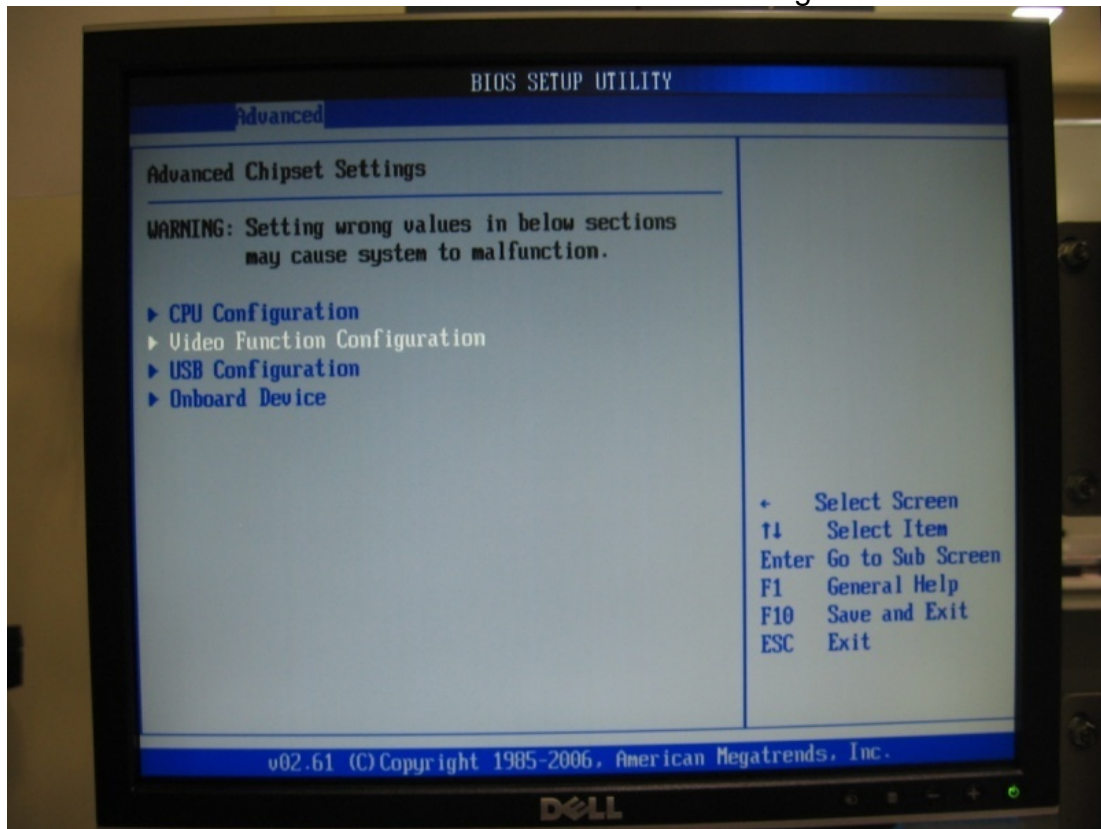
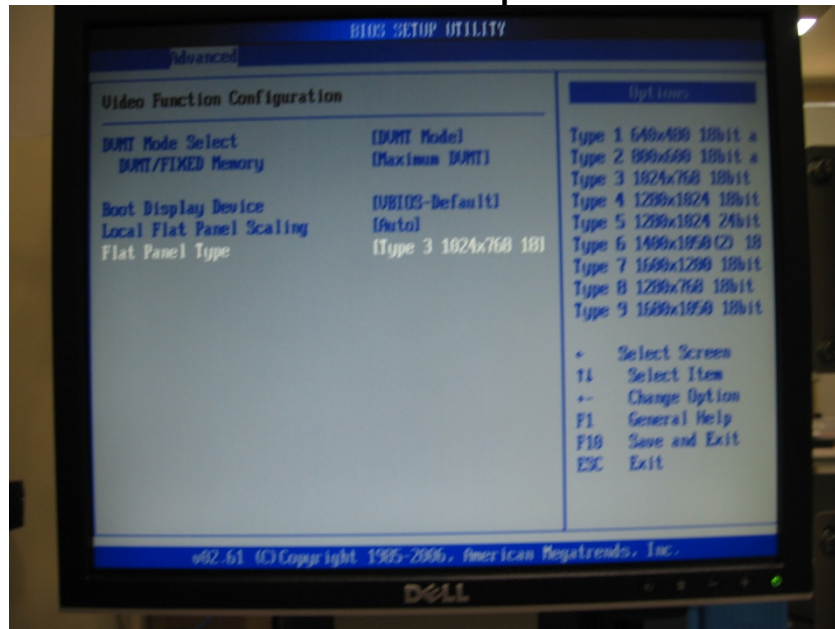

Figure 7-23 Video Function Configuration screen.
Figure 7-24 Display Configuration Screen.
13. On the **Advanced** options screen, scroll down and select **Video Function Configuration** screen. Press **Enter**. (Figure 7-23). Figures 7-24, 7-25, show the various default settings. Leave on Default then press **Escape** to return back to the **Advanced** settings Screen.
14. On **Video Configuration** screen set display as required (Figure 7-24). Then press **Escape** to return to **Main BIOS** screen.